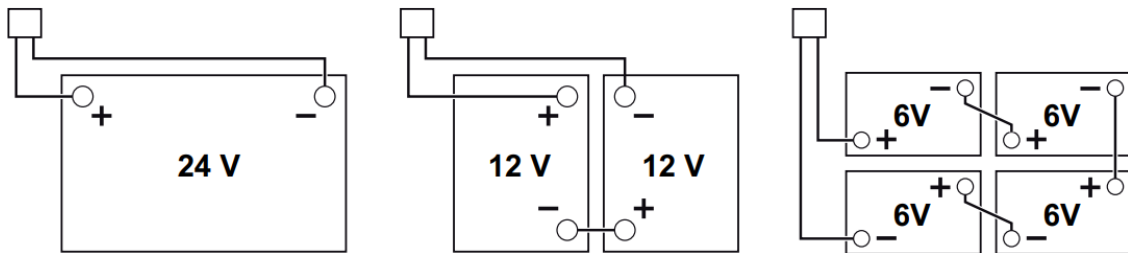

Figure 1
- connected according to the diagram shown in Fig. 1.